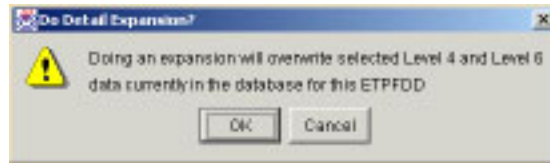

Figure 5.203 Do Detail Expansion? Window
9. Click OK. The Do Detail Expansion? window closes and a second Do Detail Expansion? window opens (Figure 5.203).